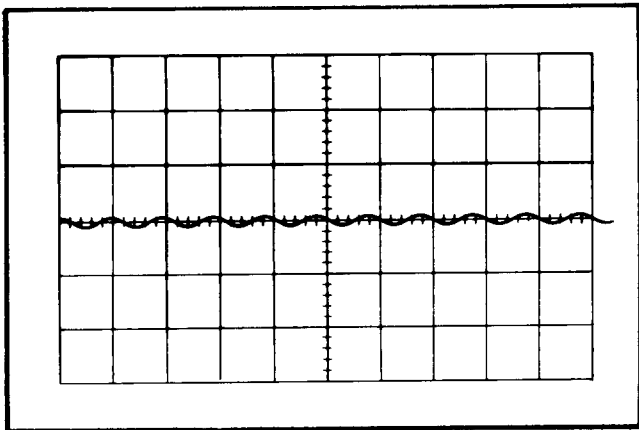

Fig. 6-40. Typical CRT display when checking high-frequency reject operation at 50 kilohertz.
c. CHECK—Stable CRT display (see Fig. 6-40) can be obtained with the B LEVEL control.
i. CHECK—Stable CRT display (see Fig. 6-40) can be obtained with the A LEVEL control.